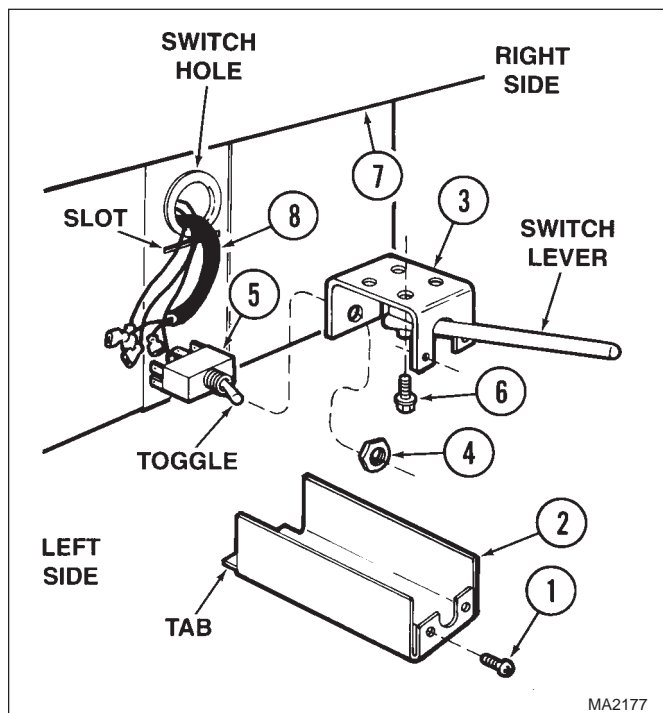

Figure 4-54. POWER ON / STANDBY Switch Removal / Installation
- (1) Disconnect all electrical power from the surgery table.
- (2) Remove two screws (1, Figure 4-54) and switch cover (2) from switch bracket (3).